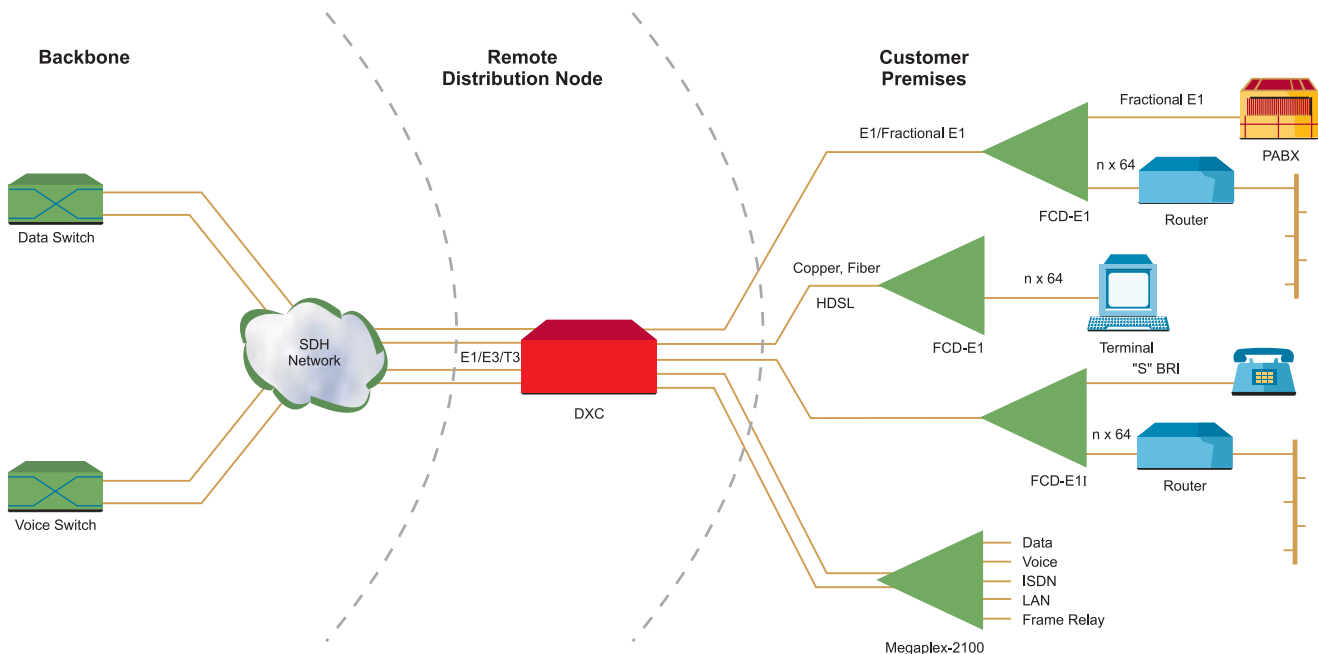

Figure 1. Multiservice Access Platform
- Providing Local Loop access solution together with traffic grooming, re-directing voice and data to different trunks (see *Figure 1*)